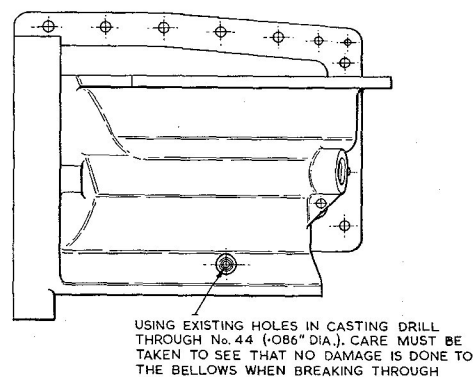

Fig. 18. Bellows unit lubrication holes
(2) Using existing tapped holes in casting as a guide, drill through the bellows housing with a No. 44 (0.086 in. dia.) drill, taking care not to damage the bellows unit (fig. 18).
(3) Use compressed air to ensure that no swarf from the drilled holes has been trapped in the bellows unit convolutions.
(4) Paint the mating surfaces of the pump casting (32) and volute assembly (66) with Wellseal jointing compound. Fit gasket (45) and secure the volute assembly with three socket-head screws (46) and shake-proof washers (47).
*If the volute assembly was completely dismantled, re-assemble using the original paired upper and lower volute castings ((68) and (70)). Fit a new gasket (69) after smearing the mating surfaces with Wellseal jointing compound. Assemble the castings with the seven screws (71) inserted from the top side and secure with self-locking nuts (67). Replace any damaged studs (63) in the lower volute casting.*